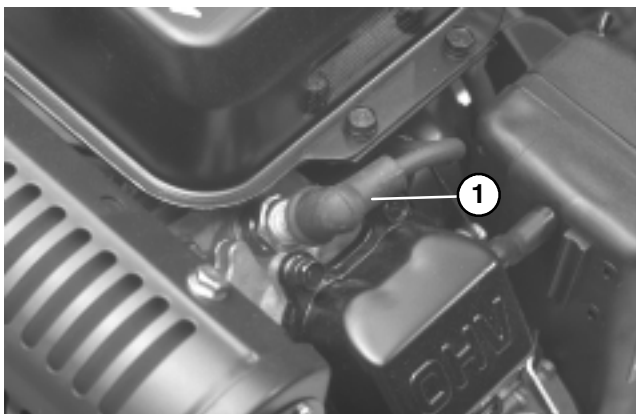

Figure 30
2. Clean around spark plug and remove plug from cylinder head (Fig. 30)